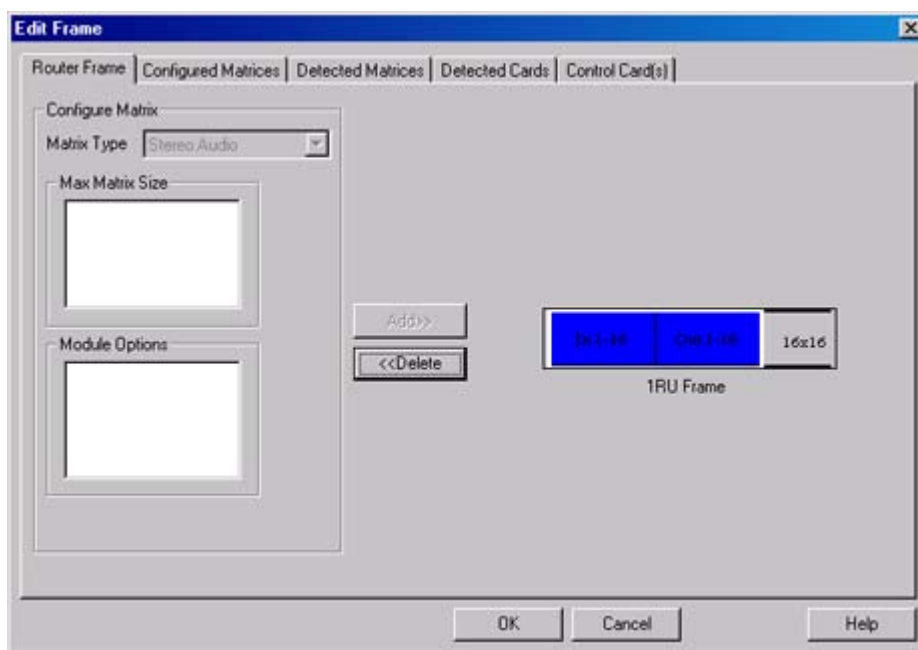

Figure 3. Router Frame Tab for Standard Module
2. Select the Router Frame tab. Panacea module information such as matrix size, type, and module options will be displayed (see Figure 3). Information for an enhanced module will differ slightly.